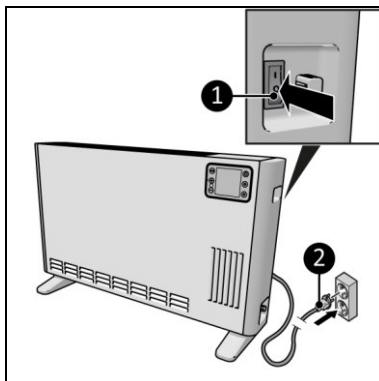

Figure 11
2. Make sure the ON/OFF switch is in the OFF position (Figure 11, pos. 1).
3. Place the power plug (Figure 11, pos. 2) into an earthed wall socket that is easily accessible. Use an earthed wall socket with a minimum power of 2400 Watt.
1. Make sure the ON/OFF switch is in the OFF position (Figure 11, pos. 1).